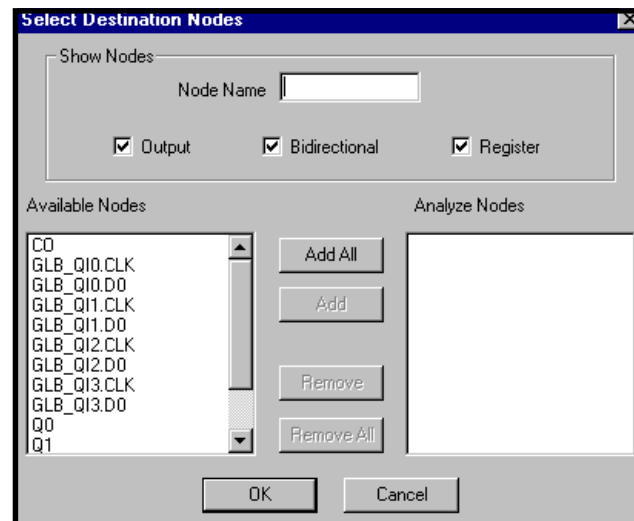

Figure 5-27. Select Destination Nodes Dialog Box
- Click **Select Destination Nodes** to display the Select Destination Nodes dialog box (Figure 5-27). Use the Show Nodes area to filter the nodes to be displayed in the list boxes. Move the nodes between the Available Nodes and the Analyze Nodes lists using the **Add All**, **Add**, **Remove**, and **Remove All** buttons.